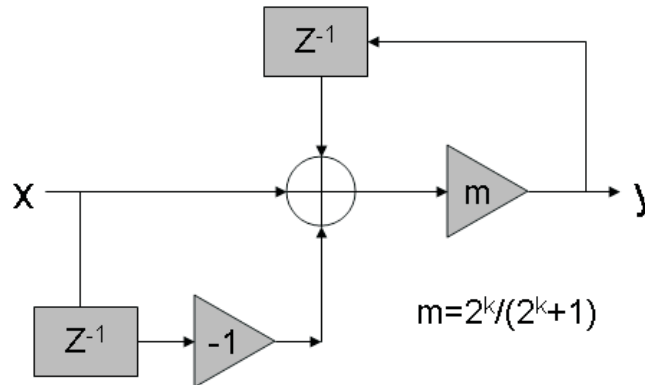

Figure 61. HP Filter Block Diagram
ADS5294 includes optional first-order digital high-pass (HP) IIR filter. Figure 61 shows the device block diagram and transfer function.